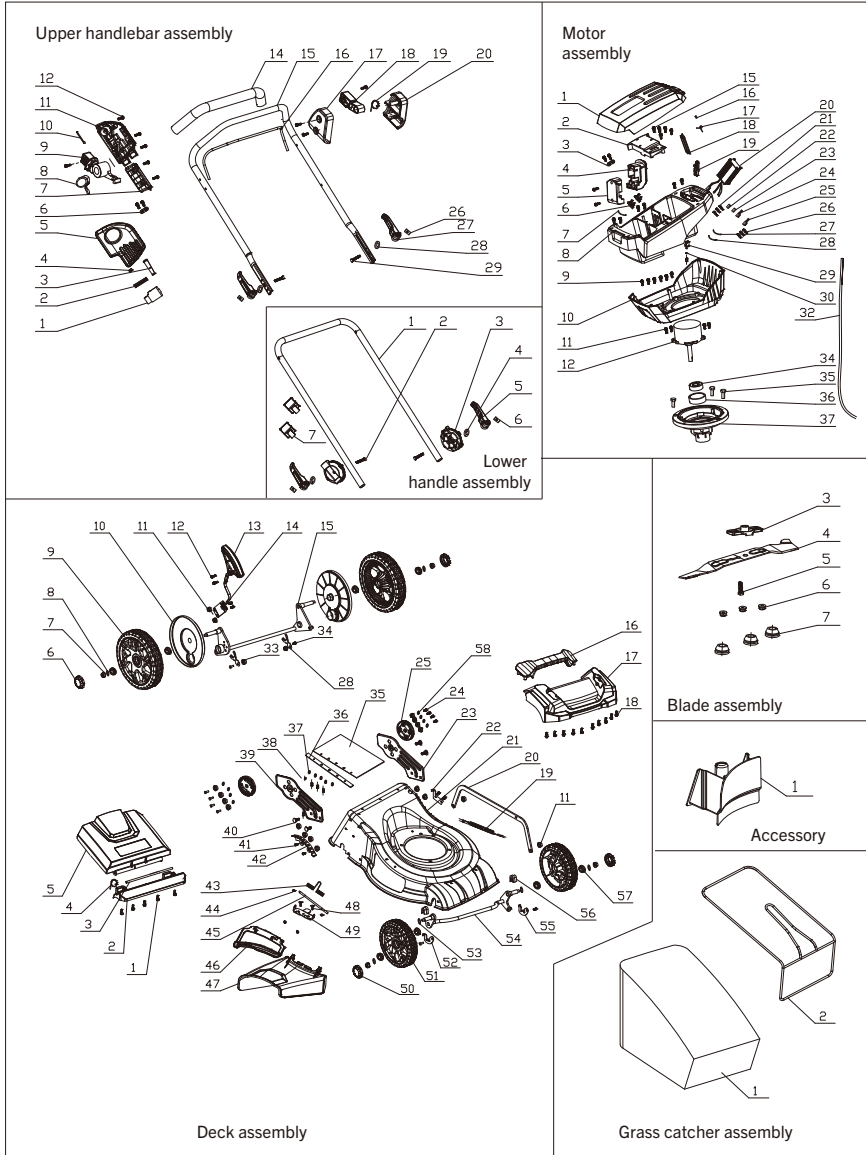

FIG. 12
4. Loosen the hex bolt counter-clockwise using the supplied hex wrench and remove it together with the washer and the blade (Fig. 12).